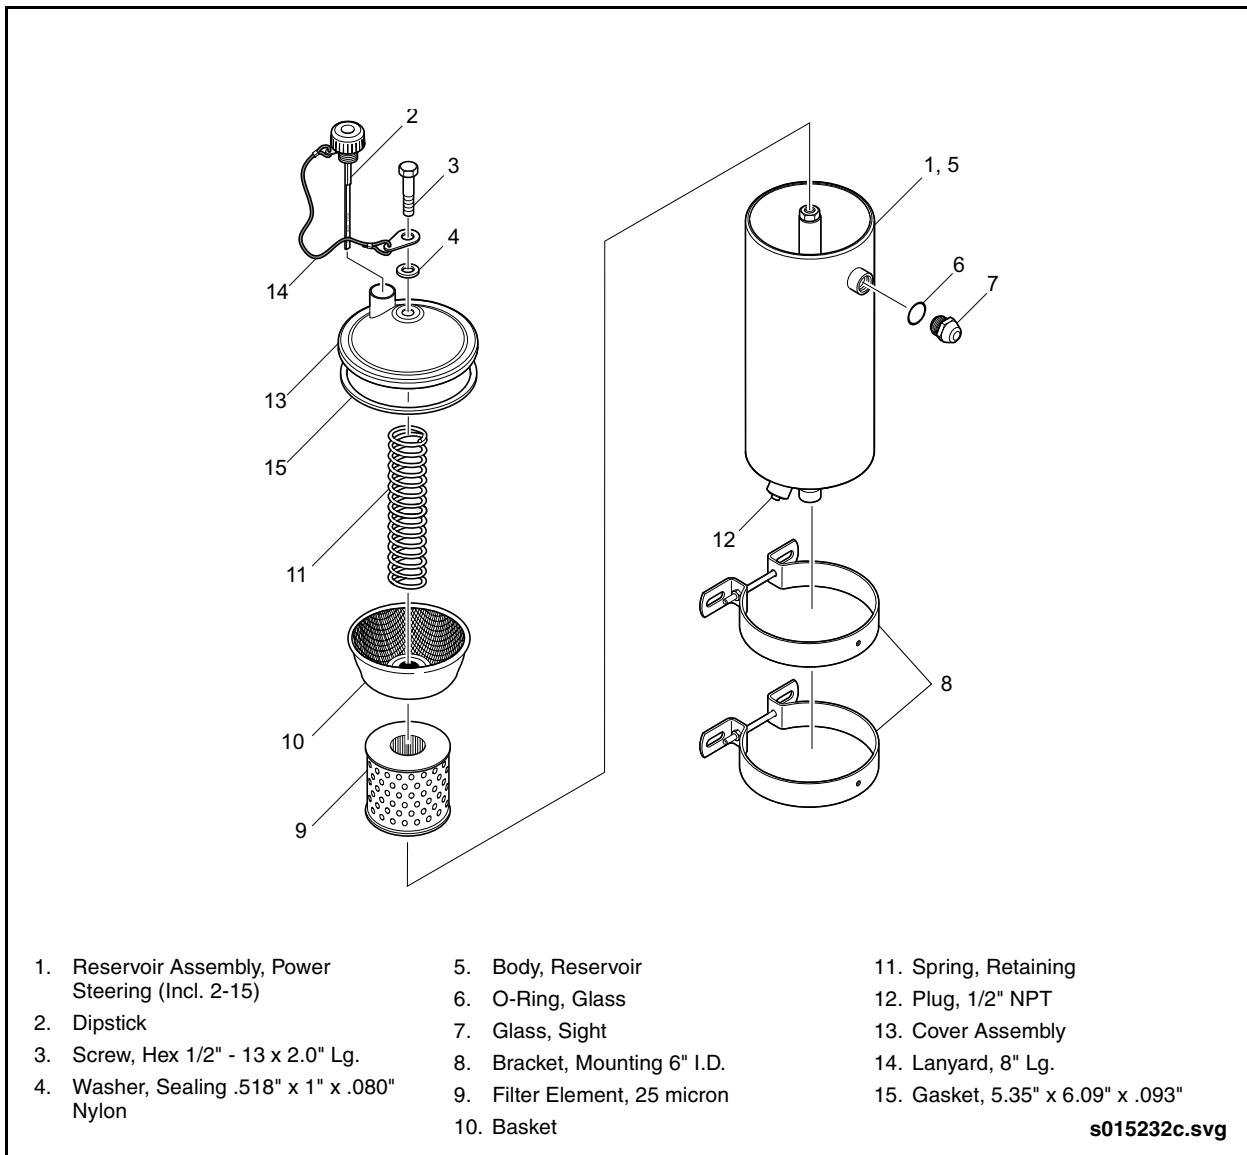

Fig. 3-32: Power Steering Reservoir Assembly
1. Remove the center cap bolt and filler cap/dipstick from the cover assembly. See "Fig. 3-32: Power Steering Reservoir Assembly" on page 50.